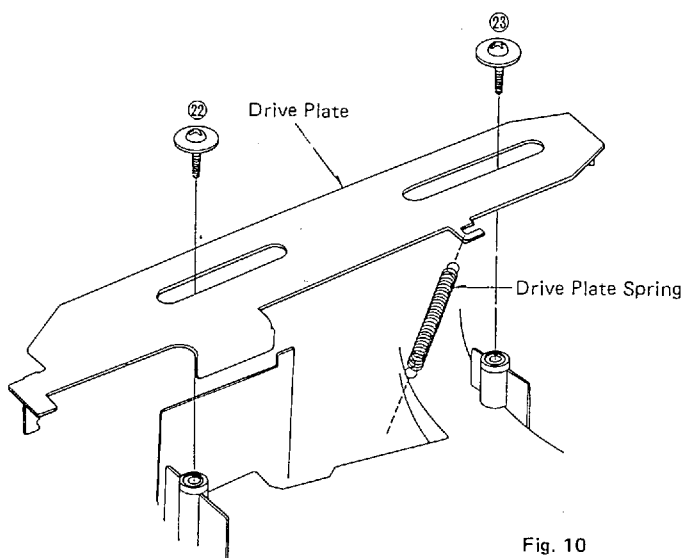

Fig. 10
2. Remove the 2 drive plate setscrews (Fig. 10: ②2 , ②3).